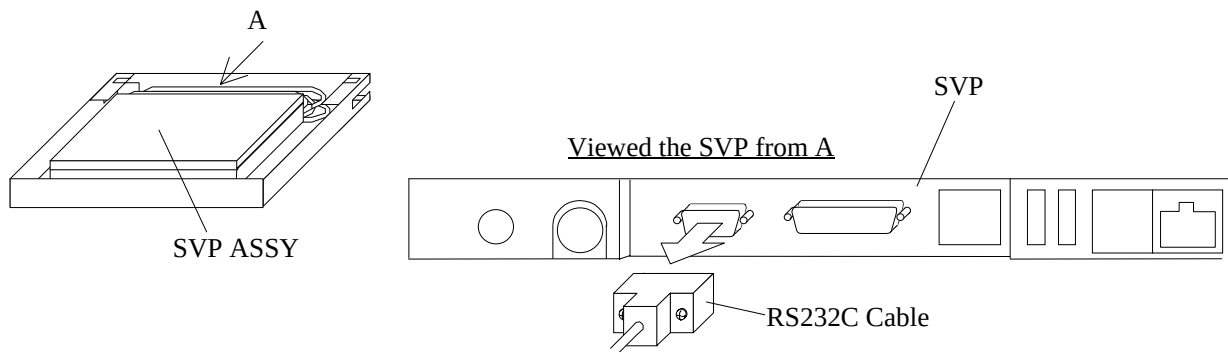

Fig. 4.12-15 Removing and installing RS232C Cable
- a. Attach the SVP and RS232C Cable. (See Fig. 4.12-15.)